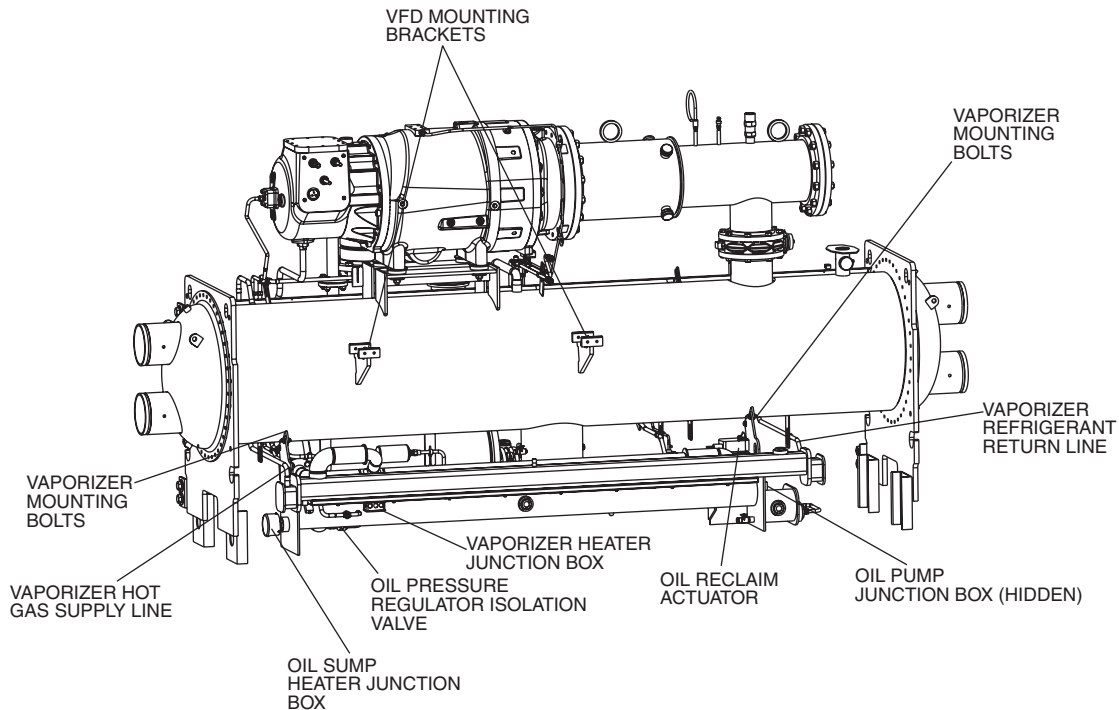

Fig. 24 — Oil Concentrator Removal
SEPARATE THE VAPORIZER FROM THE CONDENSER — The VFD mounting brackets (Fig. 24) extend beyond the outboard edge of the vaporizer. The vaporizer extends beyond the perimeter of the condenser tubesheet.
1. Cut the vaporizer hot gas supply line near the oil concentrator (Fig. 24).
2. Cut the vaporizer hot gas return line (Fig. 24).
- f. oil sump heater conduit (Fig. 24)
8. Rig the vaporizer with the lifting points on the vaporizer mounting bracket and remove the four bolts that secure it to the condenser (Fig. 24).